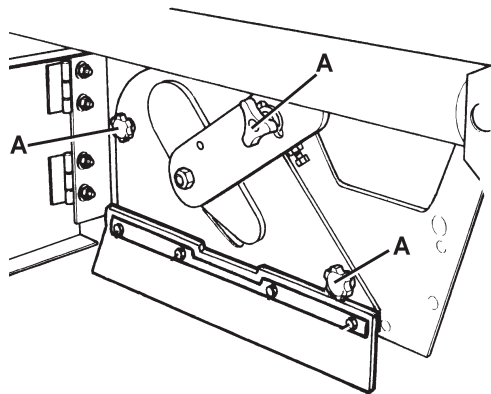
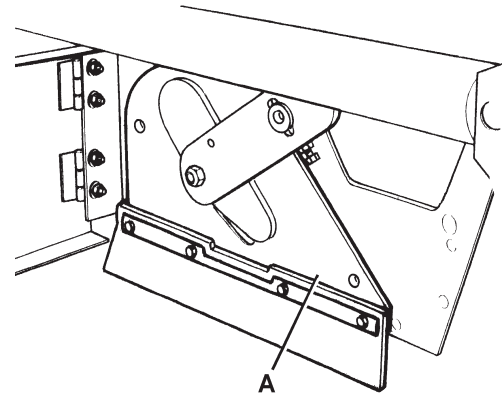

Figure 5
Figure 6
1. Drive the machine on a level ground and engage the parking brake with the pedal (75) and the lever (68).
2. Turn the ignition key (69) to "0" and remove it.
3. Release the fastener (8) and open the right door (7).
4. Unscrew and remove the knobs (A, Fig. 5).
5. Remove the main broom compartment cover (A, Fig. 6).
10. Install the main broom compartment cover (A, Fig. 6) and tighten the knobs (A, Fig. 5).
11. Close the right door (7) and engage the fastener (8).